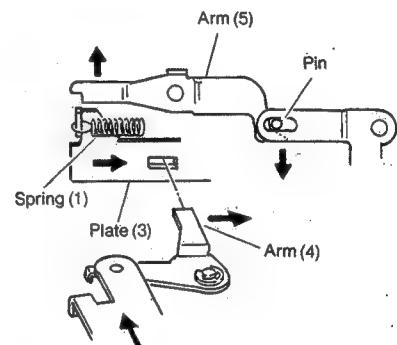

Fig. 10
3. The drop of the cassette causes the pin to push down the right end of Arm (5) and release the locking of Plate (3). Spring (1) then causes Plate (3) to move to the right and, in turn, move the Head Base forward (see Fig. 10).